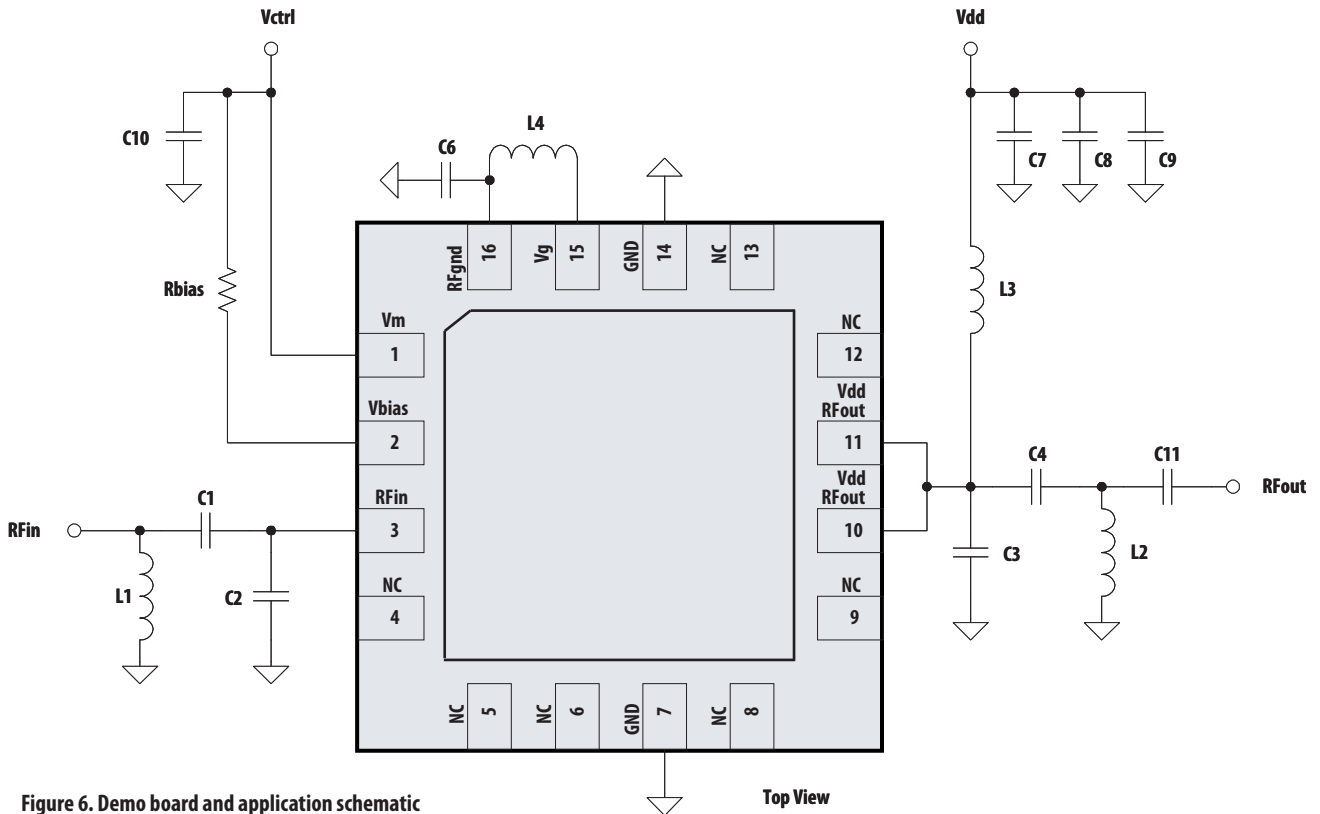

Figure 6. Demo board and application schematic
4. Measurements at 2.0GHz obtained using demo board described in Figure 6 and 7.